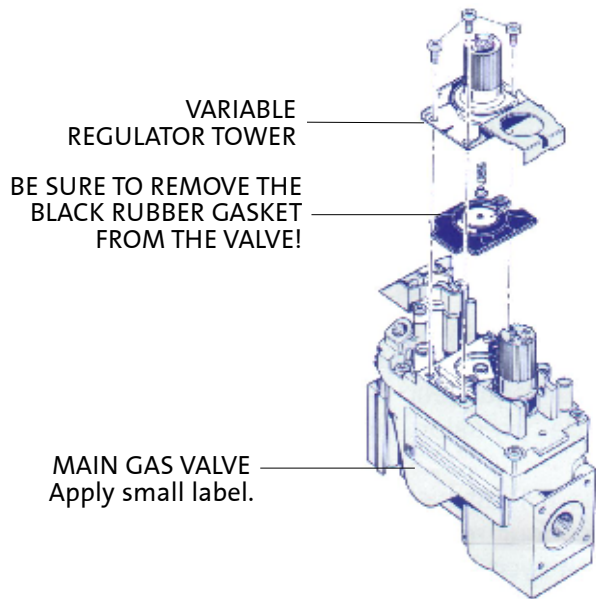

Figure 27. Regulator assembly.
13. **Replace the Variable Regulator.** Using a Torx T-20 screwdriver, remove the three screws from the front of the valve regulator. See fig. 27.
14. Remove the Regulator Tower, Gasket, white plastic disk, and Spring. Remove the black rubber gasket from the valve. See fig. 27.